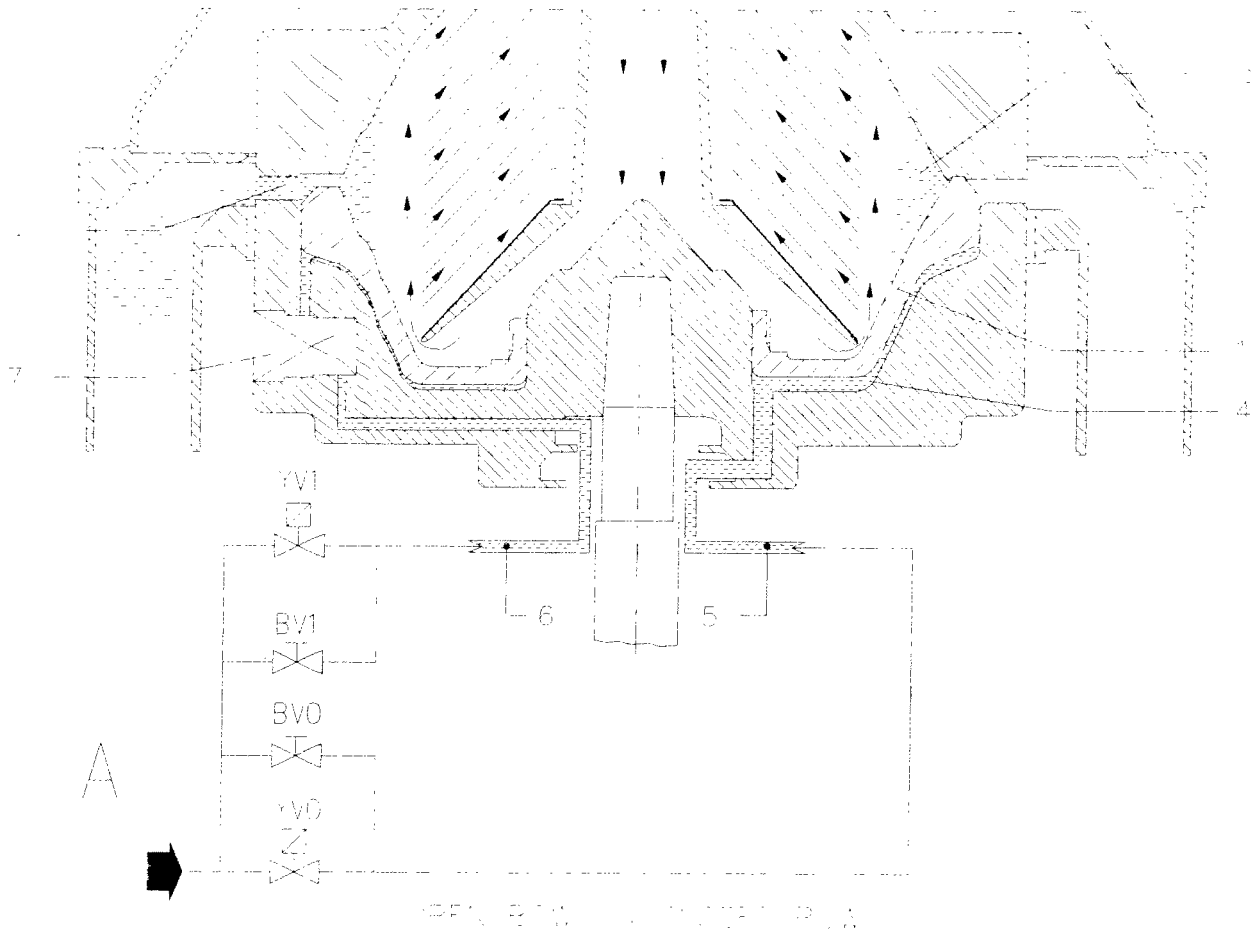

Figure 6.21
The bowl (Fig. 6.21) is provided with a ram (1) which periodically opens discharge holes (3) on the periphery of bowl, draining off the solids (2) accumulated during the separation. This ram is driven downward by the pressure of processed product and upward by operating liquid. When chamber (4) is filled with oil, the ram is in closed position (up); when chamber is partly empty, the ram goes to position of opening (down). The filling and emptying of chamber (4) is obtained through two oil pipes intercepted by solenoid valves:
- pipe (5) (solenoid valve YV0) for closing liquid, through which water fills up moving ram chamber (4);
- pipe (6) (solenoid valve YV1) for opening liquid, through which the partial emptying of chamber (4) takes place. Opening liquid acts on bowl valve (7) causing the opening of drain hole of chamber (4).